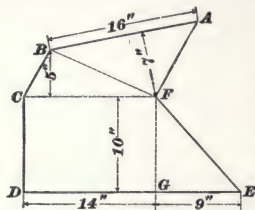

FIG. 37.
**EXAMPLE.**—It is required to find the area of the polygon  $ABCDEF$ , Fig. 37.
2. Find the area of the polygon  $ABCDEF$  (see Fig. 37), supposing each of the given dimensions to be increased to  $1\frac{1}{2}$  times the length given in the figure. Ans. 621 sq. in.